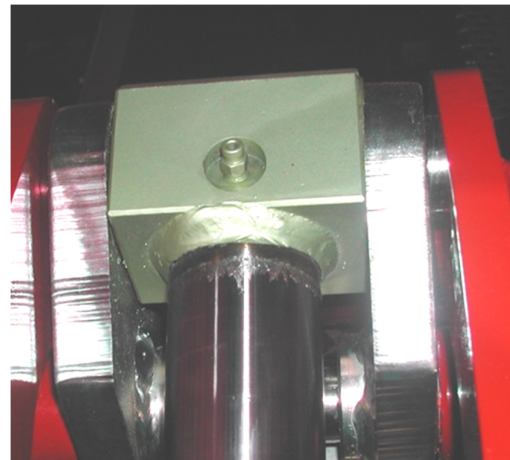

Fig. 9 – Bleed Screw
- E. Bleed air from each cylinder, **Fig 9**.